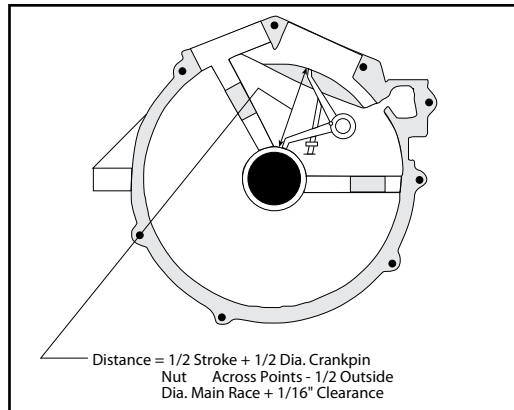

Figure 6
- Use divider to scribe arc on blued bosses. **See Figure 6, next page.**